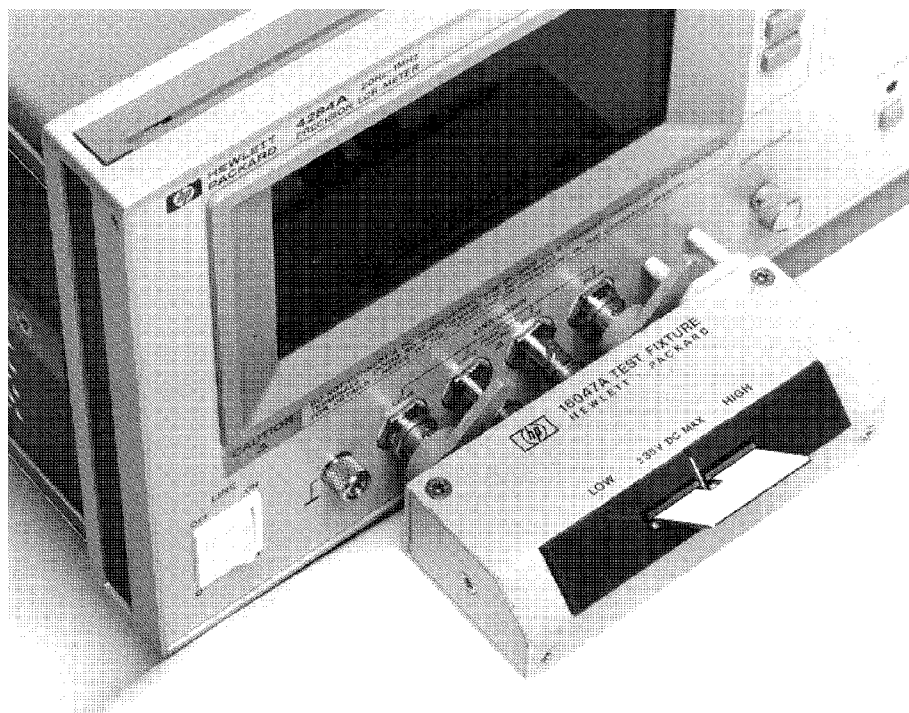

Figure 6-20. Connecting A Shorting Bar
- f. Connect a shorting bar to the 16047A to set up the SHORT condition as shown in Figure 6-20.